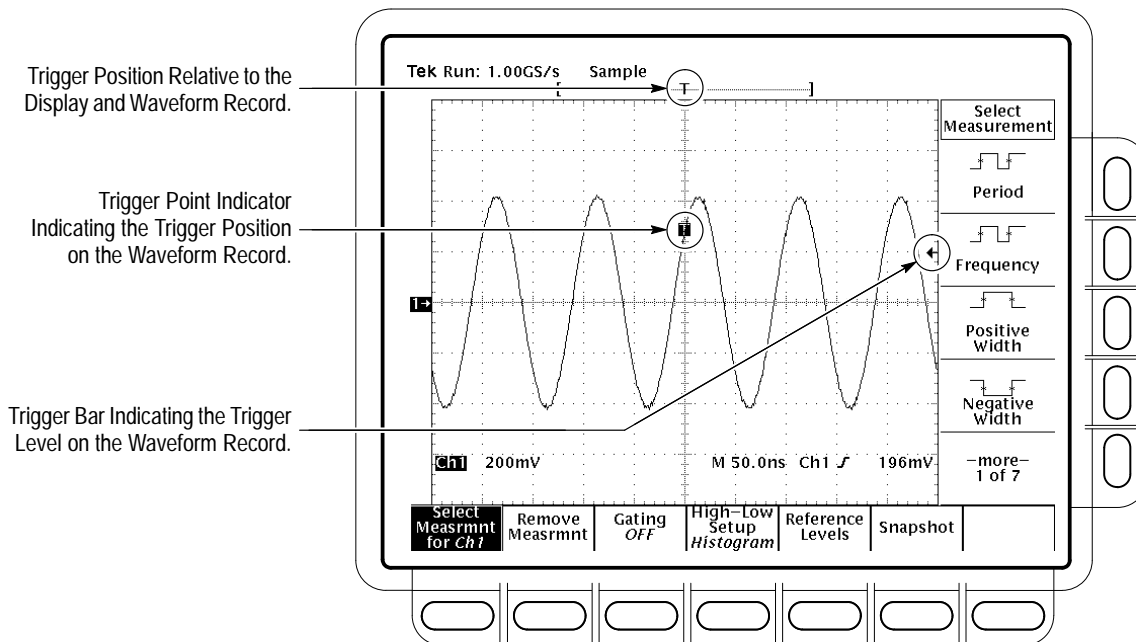

Figure 3-31: Record View, Trigger Position, and Trigger Level Bar Readouts
**Record View.** To determine where the trigger point is located in the waveform record and with respect to the display, check the record view at the top of the display. (See Figure 3-31.)
**Trigger Position and Level Indicators.** To see the trigger point and level on the waveform display, check the graphic indicators *Trigger Position* and *Trigger Bar*. Figure 3-31 shows the trigger point indicator and trigger level bar.